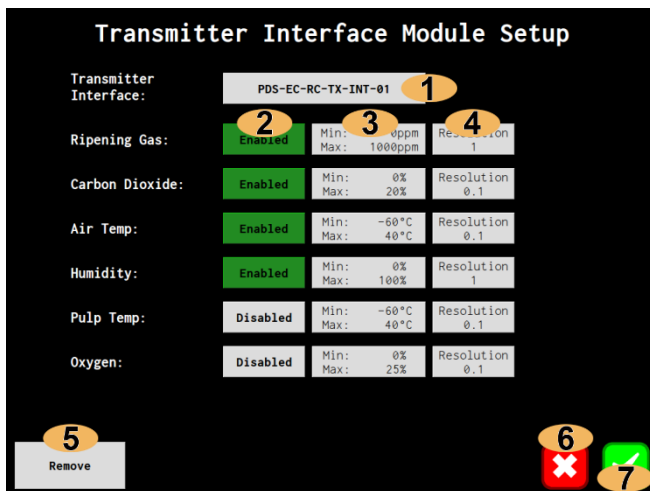

Figure 19: Transmitter Interface Module configuration screen.
- 1 **Transmitter Interface Module List:** Opens the TXINT configuration screen. When the button is red, the TXINT is disconnected. See Figure 19: Transmitter Interface Module configuration screen.
- 2 **Add New:** Adds a new TXINT, tapping on this will opens the TXINT configuration screen, See Figure 19: Transmitter Interface Module configuration screen.